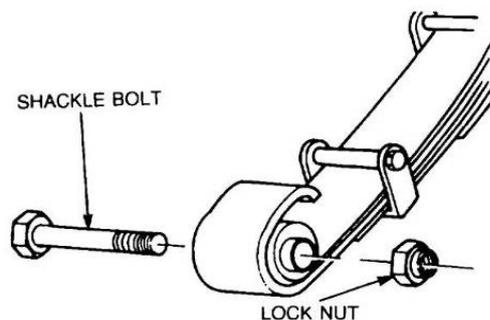

Figure 121 Removal of the Shackle Bolt (Fixed End)
- e. Remove the locknut from the fixed shackle bolt. Using a suitable drift, drive the shackle bolt through the shackle bush and from the fixed shackle mounting. Discard the locknut (Figure 121).